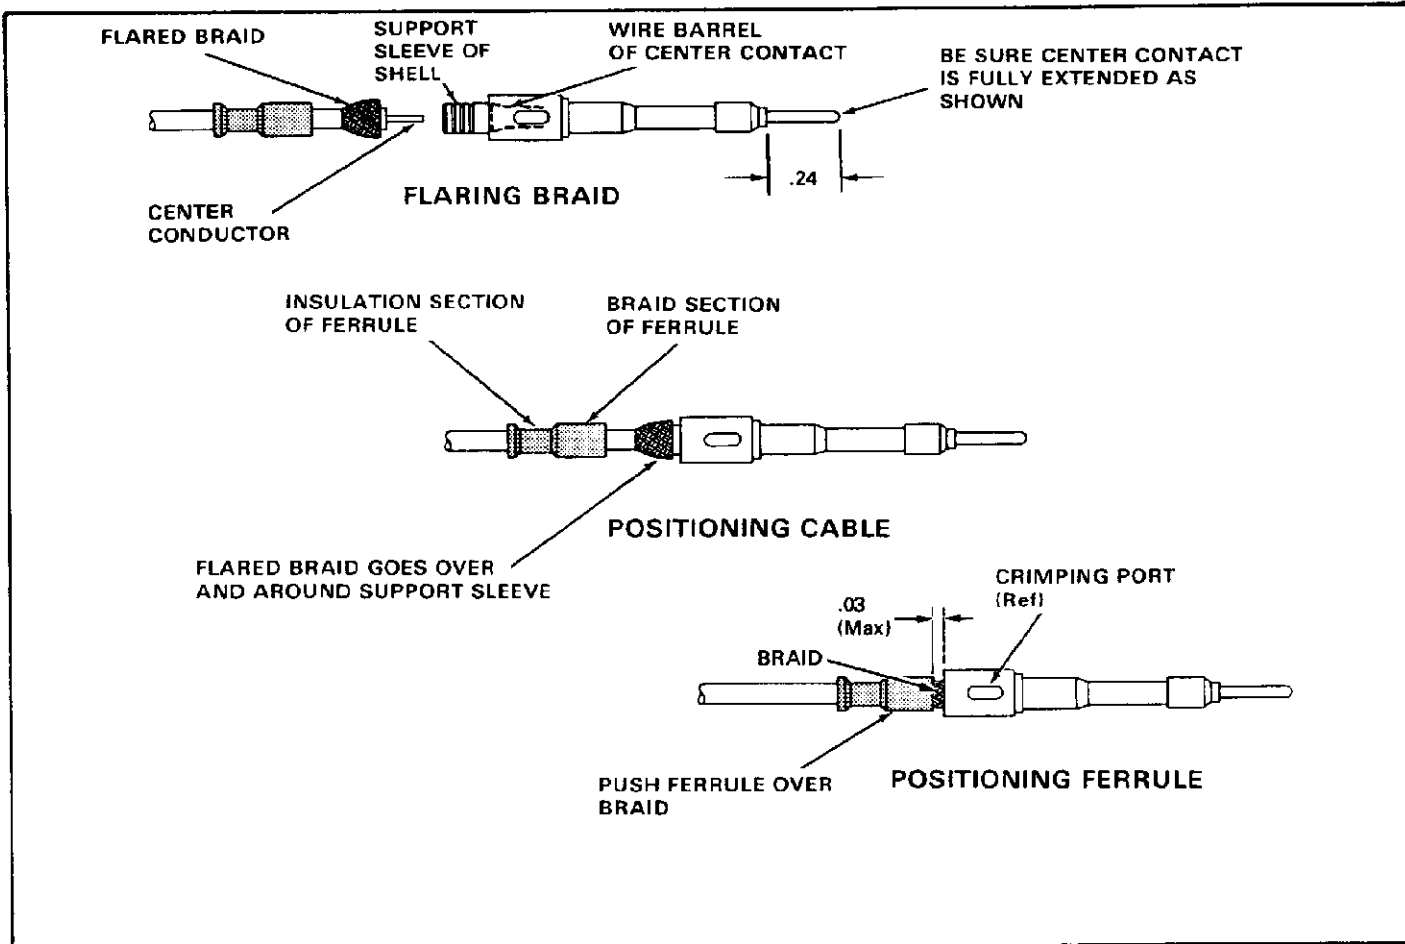

Fig. 3
2. Flare braid as shown in Figure 3. Insert center conductor into wire barrel portion of center contact as far as it will go. Make certain braid passes over and around support sleeve portion of shell.
CAUTION Be sure center contact is fully extended (see Figure 3).